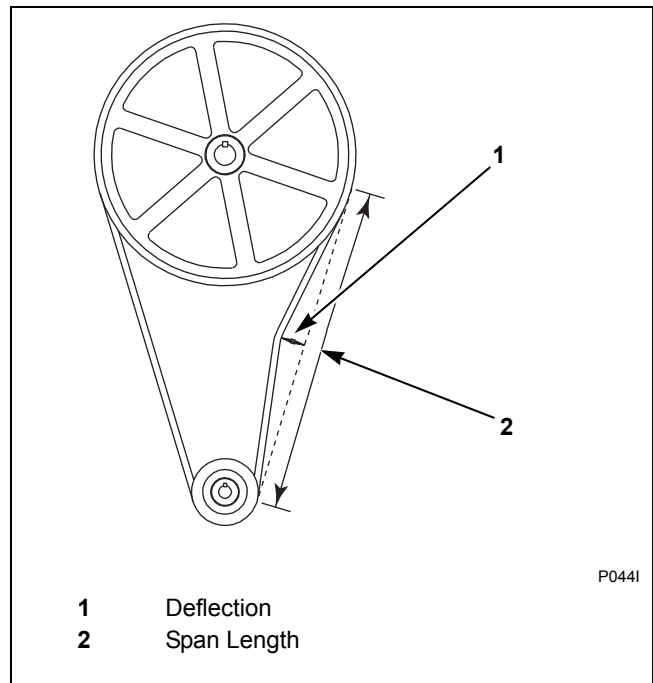

Figure 41
- **Deflection.** Refer to *Figure 41*. Loosen motor mounting bolts and slide motor along motor plate to change belt span length. Belt tension measurements should be taken as close to the center of the belt span as possible. For every inch of span length, the belt should deflect 0.40 mm (1/64 inch). Thus, a belt with span length of 50 inches should deflect 19.84 mm (50/64 inch). An initial (run-in) force of 5.25 pounds should be used to set the belt tension. An operating (normal) force of 3.5 pounds should be used after the machine has been operated for a few hours.